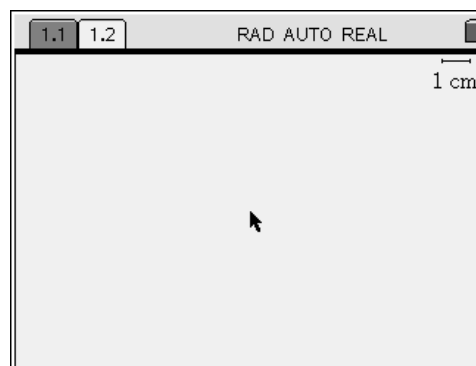

Figure 3
3. You will now have a geometry page as shown in Figure 3.